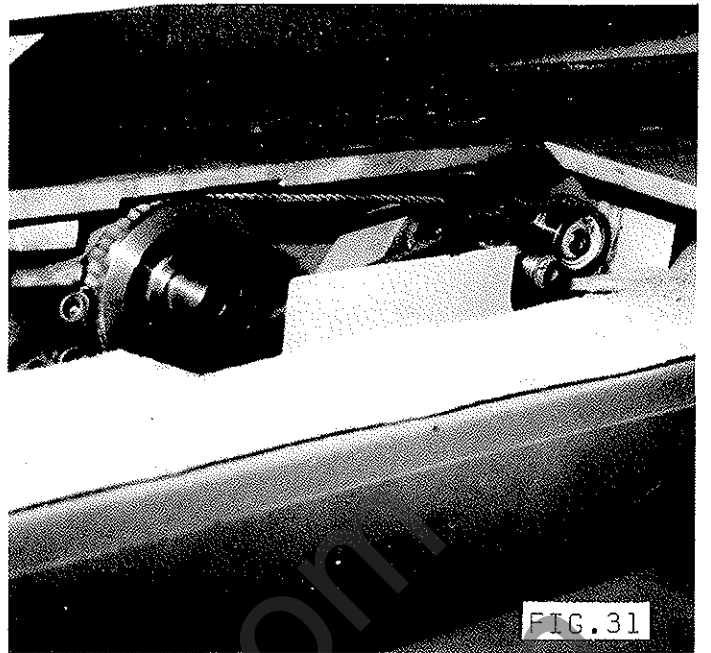

FIG. 31
- 8) Replace belt over main saw flange as shown in FIGS.31 & 33.
- 9) Place belt over the top of scoring pulley and round tension pulley as shown in FIGS.31 & 33.